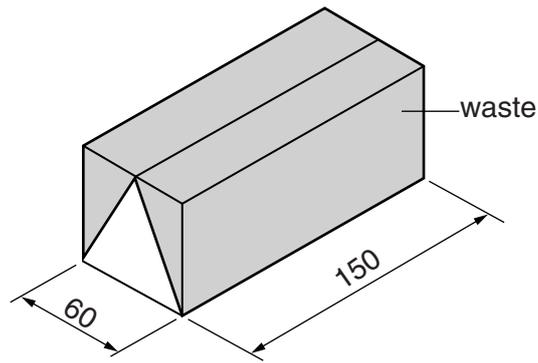

**Fig. 12**
- (c) Fig. 12 shows part of the groove that allows the acrylic top to be removed.